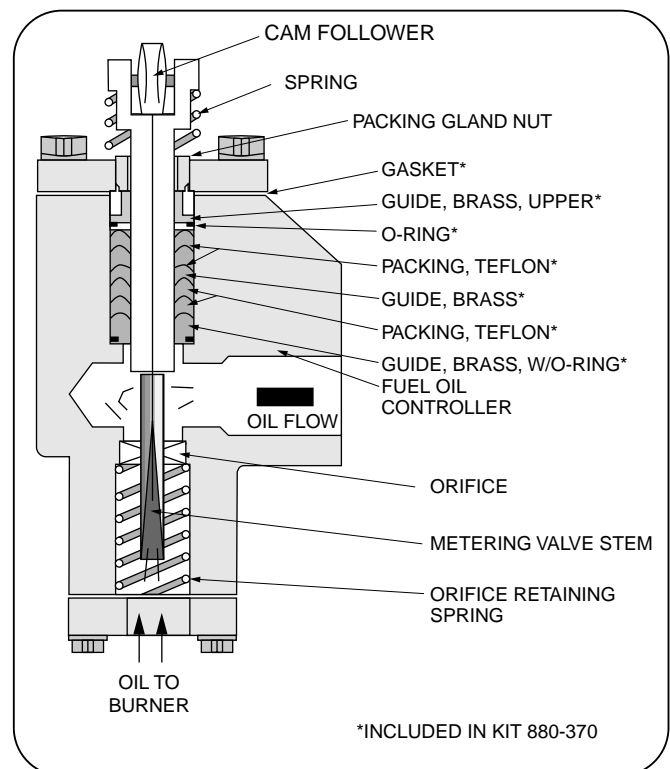

Figure 8-17: Metering Valve Packing Sequence
In the event that a leak occurs in the packing of the metering valve, the packing nut should be snugged gradually to stop the leak (see Figure 8-17).
8. Lightly coat the stem with the lubricant provided with the packing kit. Place the new packing, O-rings and guides onto the stem in the sequence shown in Figure 8-17. The beveled face of the guides and the teflon rings must face upward, with the exception of the upper brass guide which is faced down. Be sure that the O-rings are properly located.